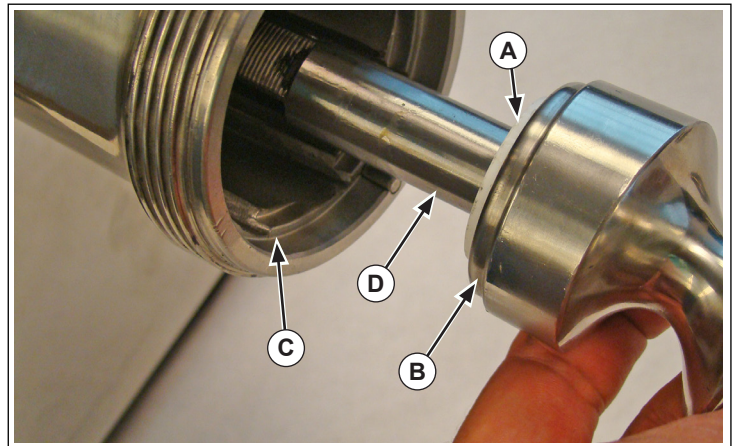

Figure 3. Shaft Washer, Worm Gear Assembly and Grinder Chamber
5. Slide the shaft washer (A) onto the worm gear shaft (B).
6. Slide the shaft washer (A) so that it is seated against the worm gear assembly (B) as shown. See Figure 3.
5. Remove the worm gear assembly (B) from the grinder chamber (C). See Figure 3.